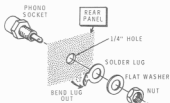
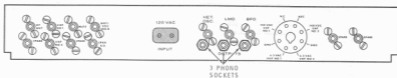

Figure 3-1
Figure 3-11
Three unused phono sockets must be available on the rear panel of your receiving equipment. If they are not, they must be installed. Your kit contains three phono sockets (with mounting hardware) for this purpose. Figure 3-1 is the socket mounting detail. **DO NOT** drill any holes until you have carefully read the "Installation" instructions for your equipment.
- ( ) Refer to Figure 3-11 and install three phono sockets at the locations shown. Refer to Figure 3-1 for the hardware mounting detail.